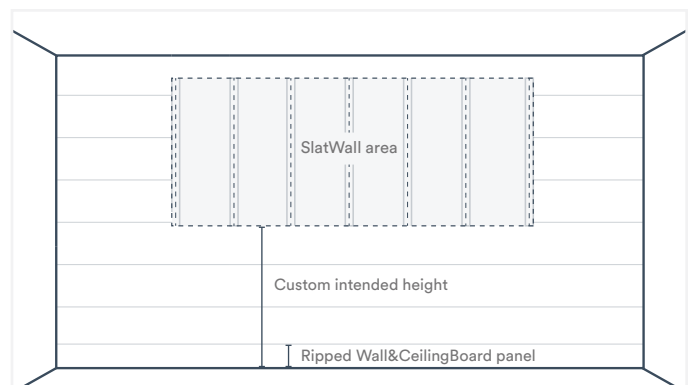

Fig. 15
- b. If the desired distance from the floor to the bottom of the first SlatWall panel is not an even multiple of 16", the Wall&CeilingBoard panel closest to the floor should be ripped to an appropriate width to achieve the desired SlatWall height (Fig. 15). The resulting connection between SlatWall and Wall&CeilingBoard is shown below.